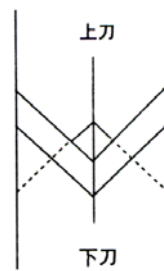

Fig 3-6
Refer to Fig 3-6, aim the upper blade at the down blade, and then fasten the screw.
- ① cut down the power supply, open the operation panel (there are 6 pieces of M3 round head screws)
- ② revolve the driving-pulley, make the gap between the two blades around 1.00. (The central distance between the two "V" blades, refer to Fig 3-6) and keep the blades fixed.
- ③ adjust the fan-shaped anti dazzling screen, and enter the fillister of the sensor, switch on the power supply, set the light (LED) on the circuit board of the sensor in a state of criticality, and fasten the screws, Please note that you have set the fan-shaped screen in the middle of the fillister to avoid scratch when adjusting